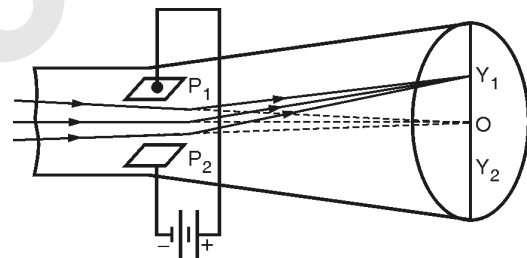

Fig. 1.6.1(a) : Deflecting system using parallel vertical plates
- iv. The deflection is proportional to the deflecting voltage between the plates. If the polarity of the deflecting voltage is reversed, the spot appears at the point Y_2 , as shown in Fig. 1.6.1(a).